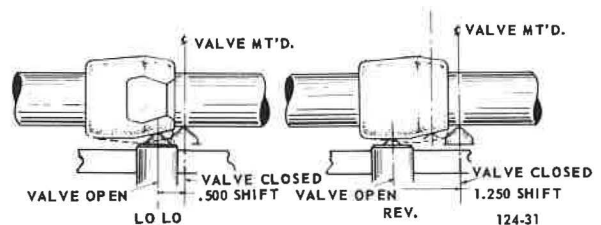

Figure 5-2. Valve Adjustment TRXL1071 Transmission
7. Valve should be open in reverse and in Lo-Lo range positions. See Figure 5-2.